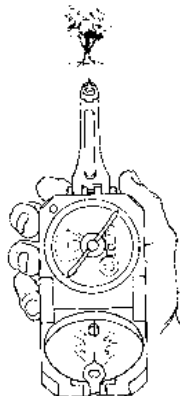

Figure 15
6. In the mirror's reflection, bisect the object with the mirror center line. (Fig 15)